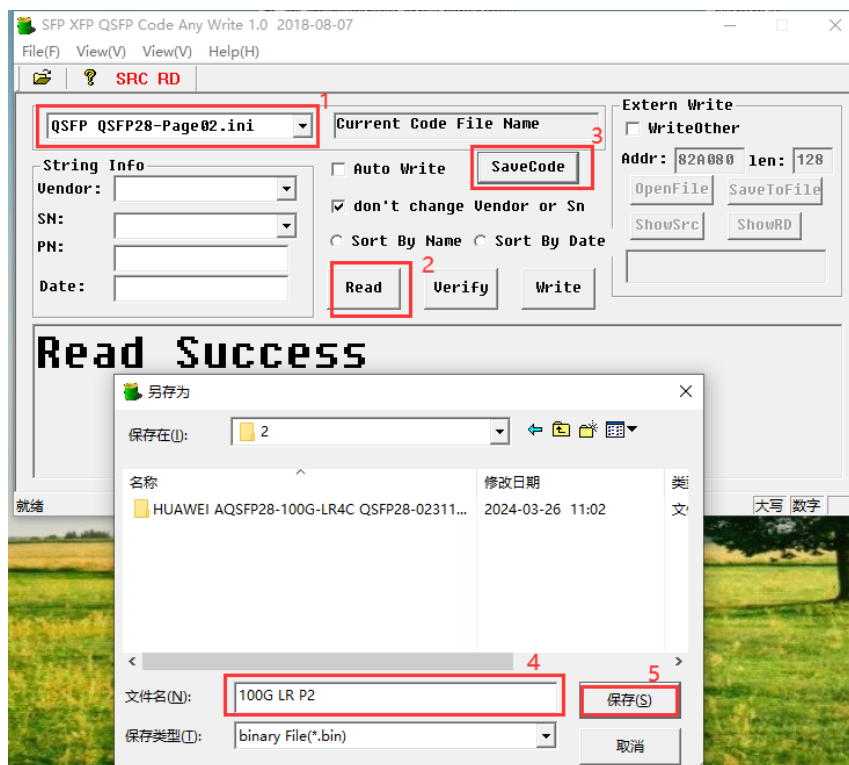

Figure 20
2.6 Select the configuration file corresponding to the QSFP optical module, select the "QSFP QSFP28-Page02" configuration file (as shown in Figure 20)
2.2 Click the "Read" (as shown in Figure 20)
2.3 Click the "SaveCode" (as shown in Figure 20)
2.4 Name the code (as shown in Figure 20)
2.5 Save the code to your computer (as shown in Figure 20)